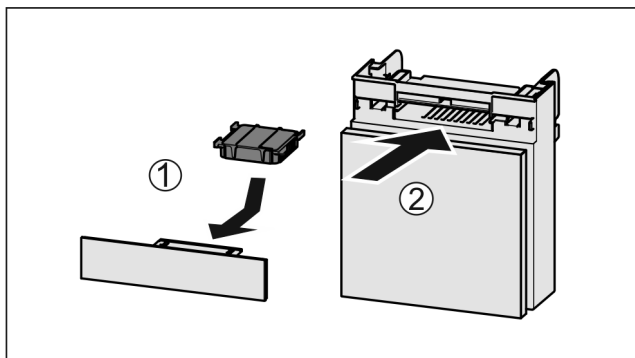

Fig. 179
- Insert the carbon filter as shown in the diagram Fig. 179 (1).
- Push the compartment in Fig. 179 (2).